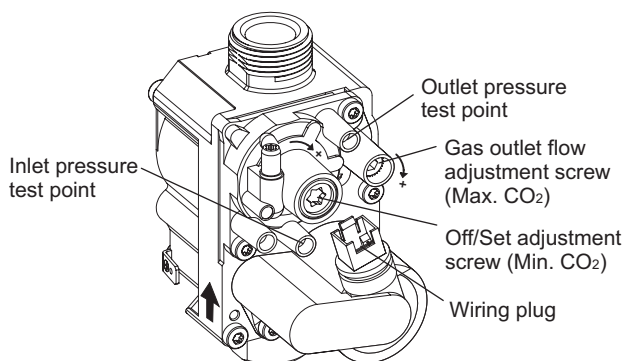
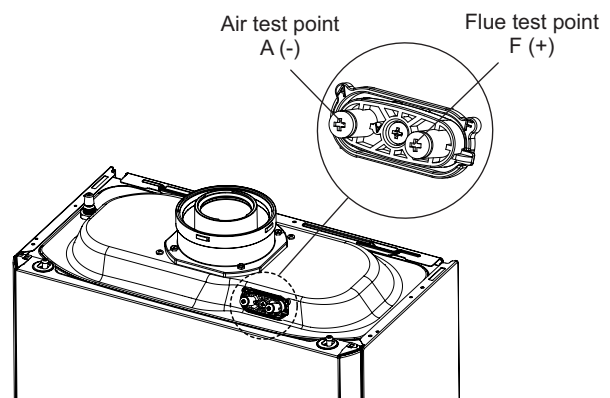

Fig. 6.2
Fig. 6.3
The air gas ratio of the boiler has been factory-set and should not require adjusting during commissioning. If adjustment is recommended or required the engineer must be competent to carry out this work. See Fig. 6.3 for analyser test point.
Refer to Section 6.6 and enter the chimney sweep mode (with no DHW demand) use the DHW down button to set the output to maximum (99%). Insert the analyser probe into the flue test point (Fig. 6.3) and check that the CO2 value is as specified in Section 3.1, otherwise adjust the max CO2 adjuster (Fig. 6.2) To increase the CO2 value, turn the adjustment screw in a clockwise direction and vice versa to decrease.
When you finish the maximum CO2 adjustment, while maintaining the chimney sweep function active, use the DHW up button to set the output to maximum (99%). Insert the analyser probe into the flue test point (Fig. 6.3) and check that the CO2 value is as specified in Section 3.1, otherwise adjust the min CO2 adjuster (Fig. 6.2). To increase the CO2 value, turn the adjustment screw (Fig. 6.2) in a clockwise direction and vice versa to decrease it.
Connect the flue gas analyser to the flue gas sampling point as shown in Fig. 6.3.
**Notes:** 1. Prior to servicing, it is recommended that a flue gas analyser is used to measure the performance of the boiler (refer to Fig. 6.3 for the position of the flue sampling point). Refer to Section 6.6 Checking combustion. If the CO/CO2 ratio measured is greater than 0.003 **or** when other checks or comments from the customer have indicated that there may be problems, check the following: